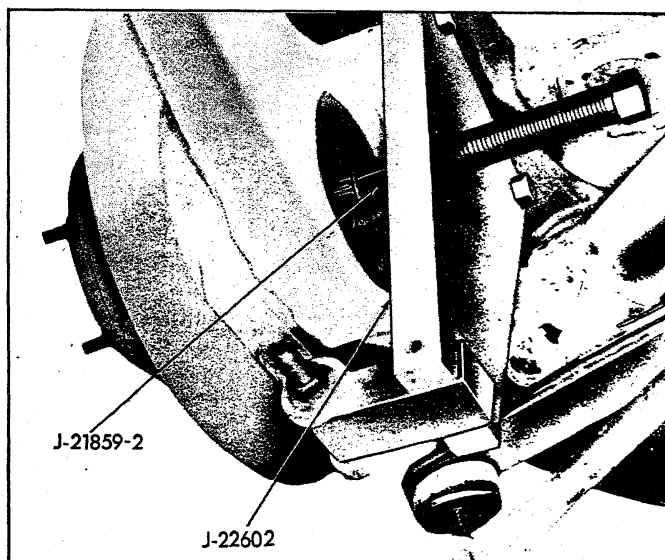

Fig. 12—Removing Drive Spindle from Support (Corvette)
4. Install Thread Protector J-21859-2 over spindle threads; then remove drive spindle from spindle support, using Tool J-22602 as shown in Figure 12.